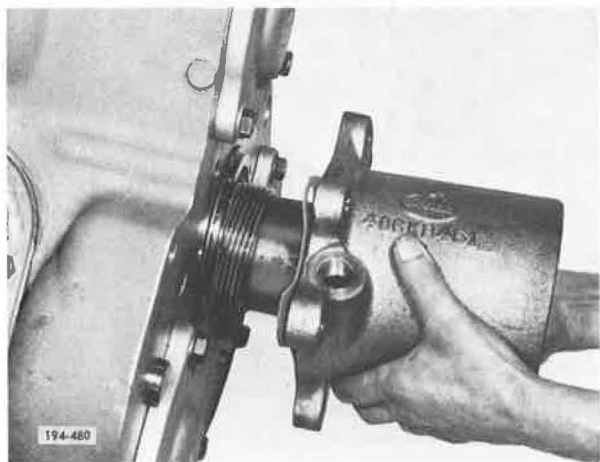

Figure 5-576. Removing Mainshaft Rear Bearing Cover
1. With rear case on a bench, remove mainshaft rear bearing cover capscrews and cover. See Figure 5-576. Remove countershaft rear bearing cover capscrews and cover.